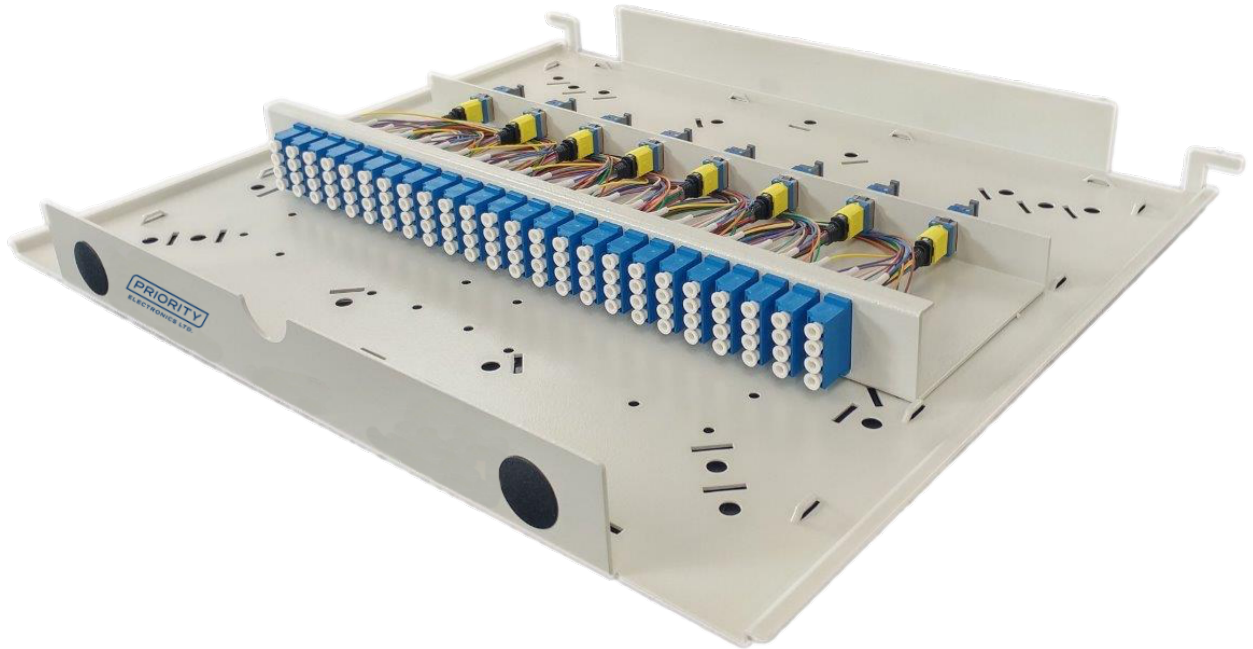

Figure 19
- 5.6 Ultra High Density Option - tray populated with one 96LC or one 96LC - 8x12MPO adapter plate (96LC - 8x 12MPO option shown in Figure 19) to 96 fibre terminations in a 1RU footprint.
The exception is the Ultra High Density option which consists of a single 96LC adapter plate shown in Figure 19.